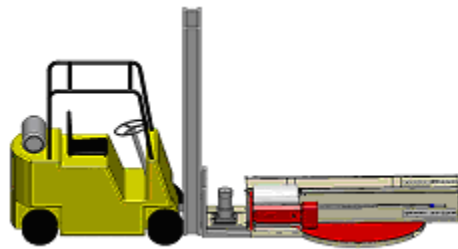

Fig. 2-3
Step 1 - Place the machine in the desired location using a tow motor or crane capable of handling a load of 3,000lbs. (See Fig. 2-3)